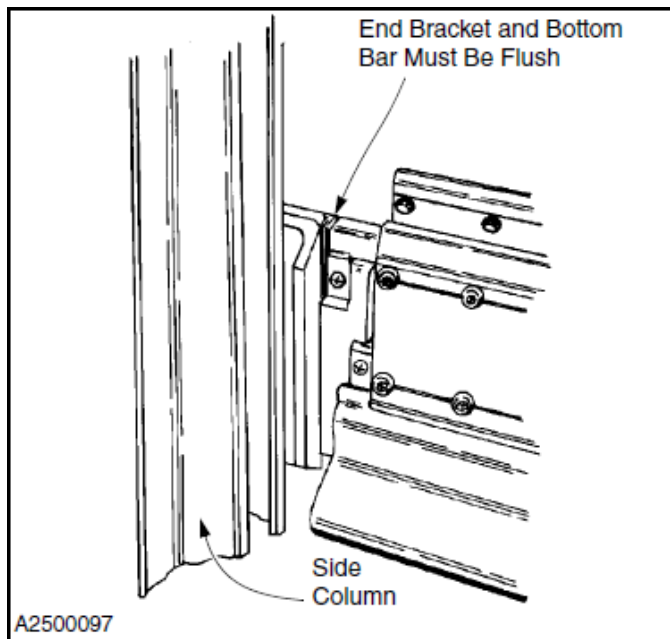

Figure 9
9. Check the alignment of the end bracket and the bottom bar assembly. They must be flush at the front and back edges. (See Figure 9)